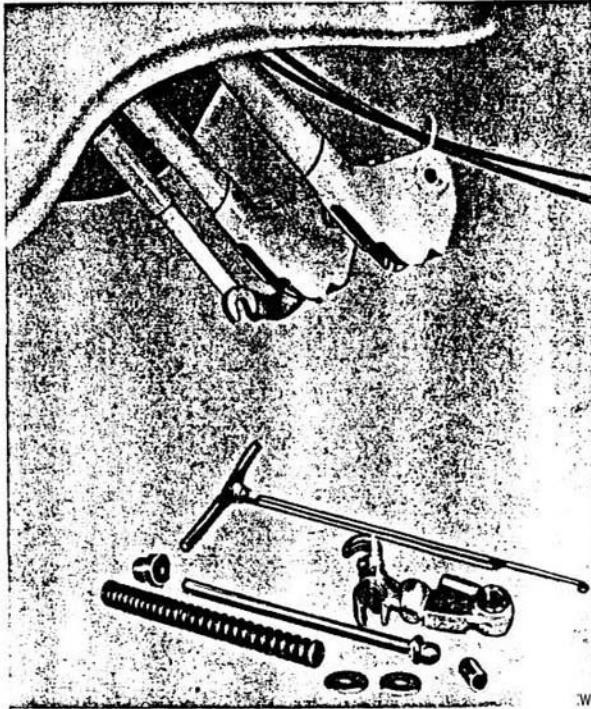

Fig. 37
- 66 Remove spring guide pistons, the springs and piston guide ring, using for the last item a hook in case of difficulty. See Fig. 37.